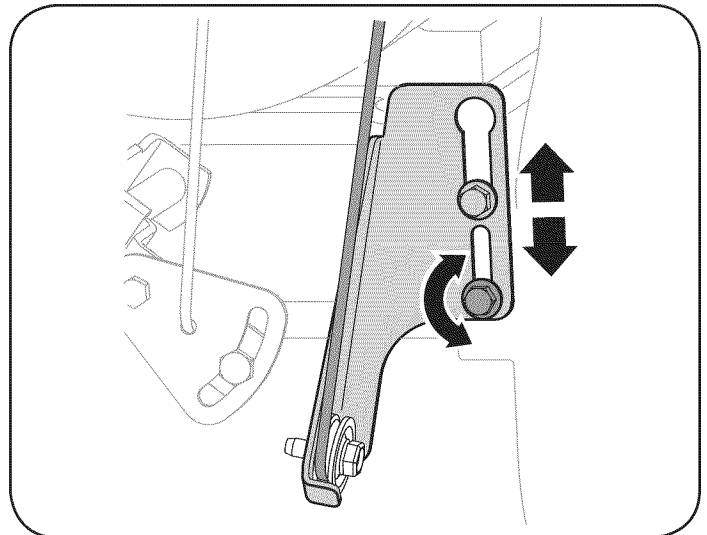

Figure 20
- b. Loosen the lower hex bolt on the drive cable bracket. See Figure 20.